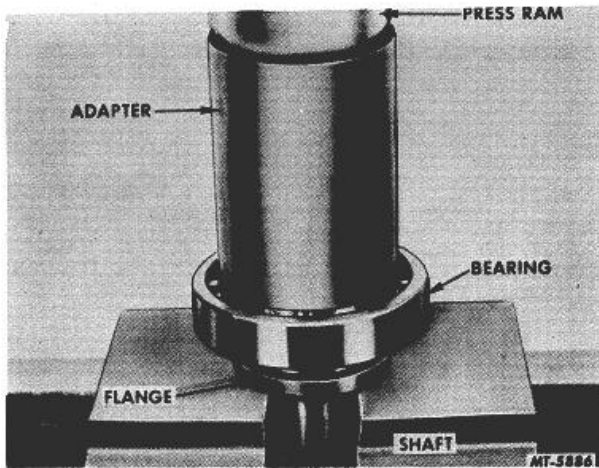

Fig. 171 Installing Injection Pump Drive Shaft Front Bearing
28. Install front bearing on injection pump drive shaft by placing shaft into press and with a suitable adapter press bearing onto shaft until it bottoms on the shaft flange (Fig. 171).